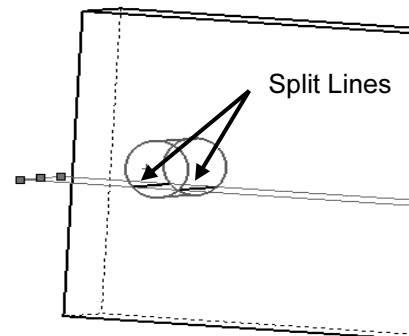

Figure 10 – Close-up view of hole showing *Split Lines* near bottom of hole.
- Click inside the **Faces/Bodies to Split** field to activate this field (salmon color), then move the cursor over the model and select the *inside surface* of the hole. It may be necessary to zoom-in on and rotate the model to select this surface. Once selected, **Face<1>** appears in the field. Figure 10 shows a partial image of the model with *Split Lines* appearing where **Plane1** intersects the bottom of the hole.